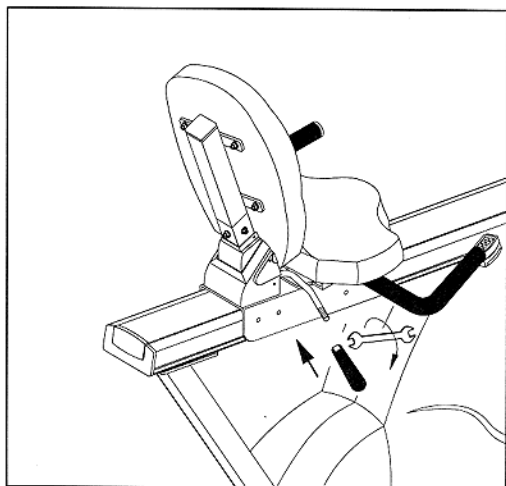

Fig.9
11. Attach the seat back adjustment handgrip to the seat back adjustment lever, using the wrench provided. (see Fig.9).